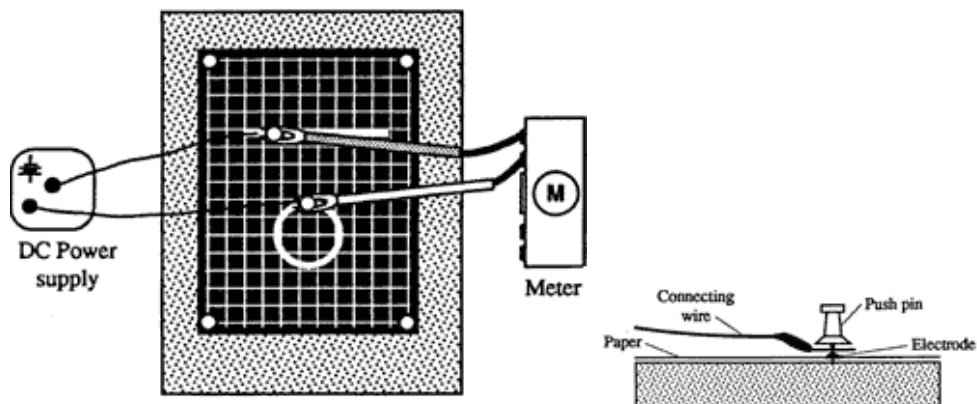

Figure 2: Equipment Setup and Electrode Connection
2. Connect the electrodes to a battery, DC power supply, or any other potential source in the 5 to 20 VDC range using the supplied connecting wires. (see Figure 2) The potential source should be capable of supplying 25 mA. (If possible, the potential should be equal to the full scale reading of the electronic voltmeter used in the experiment.)
3. Place the terminal of a connecting wire over the electrode, then stick a metal push pin through its terminal and the electrode into the corkboard. Make certain that the pin holds the terminal firmly to the electrode. (see Figure 2). NOTE: Check that the surface of the terminal which touches the electrode is clean. A dirty path may result in a bad contact.